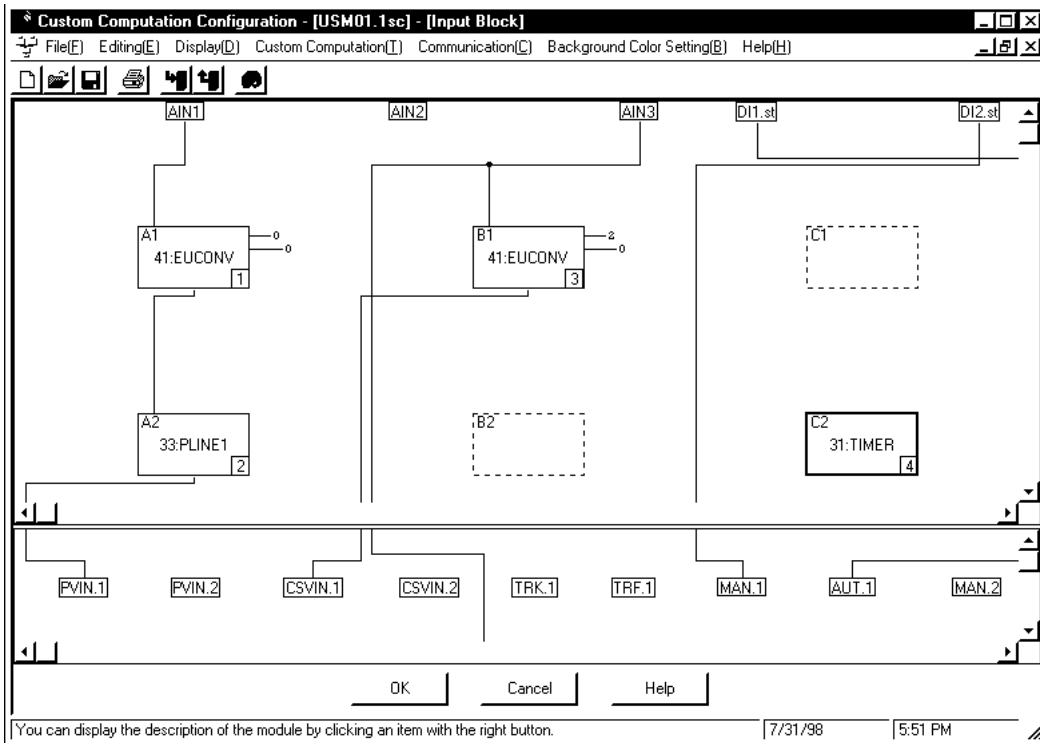

Figure 12.5.5 Example of the [Input Block] Dialog Box where the TIMER Module Is Registered As the Fourth-run Module
- ③ Click the <Special Calculation> index.
- ④ Double-click <31: TIMER>. The TIMER module is registered with the [Input Block] dialog box, as shown in Figure 12.5.5.